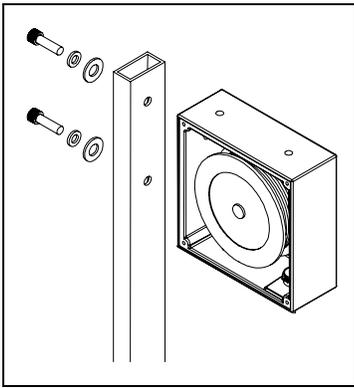

Figure 2
4. Install reel using the two 3/8" cap screws, lock washers & flat washers. (See Figure 2.)